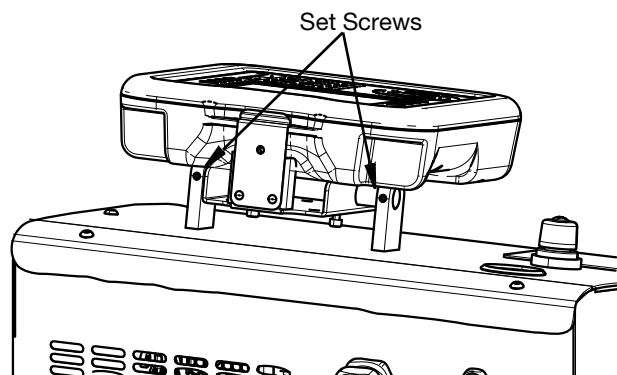

FIG. 28
1. Loosen both set screws on the ADM mounting brackets using a 2.5 mm allen wrench. See FIG. 28.